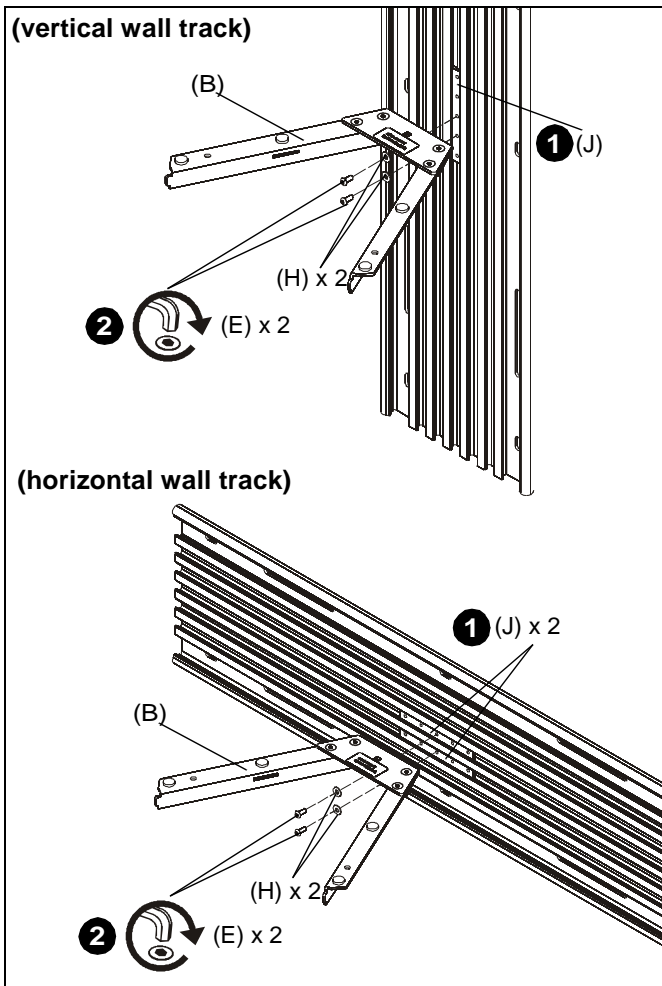

Figure 1
1. Place locking plate(s) (J) in wall track at desired mounting location. (See Figure 1)
2. Use two #10-24 x 1/2" button head cap screws (E) and two #10 washers (H) to attach shelf base (B) to locking plate(s). (See Figure 1)